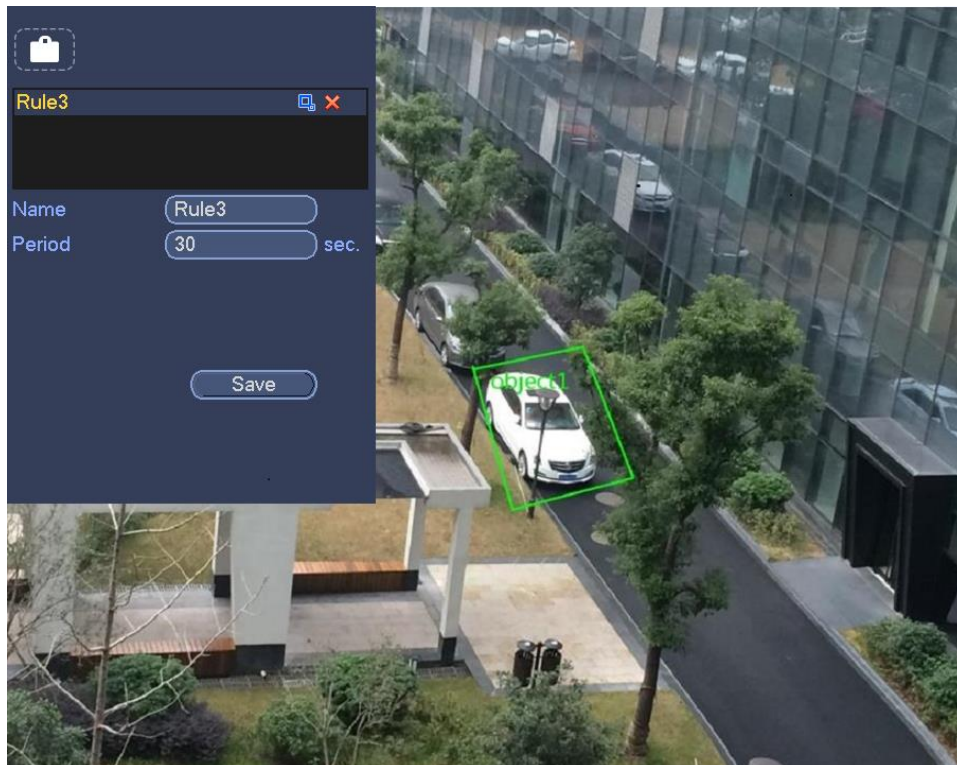

Figure 4-151
1. Click draw button  to draw the zone. See Figure 4-151.